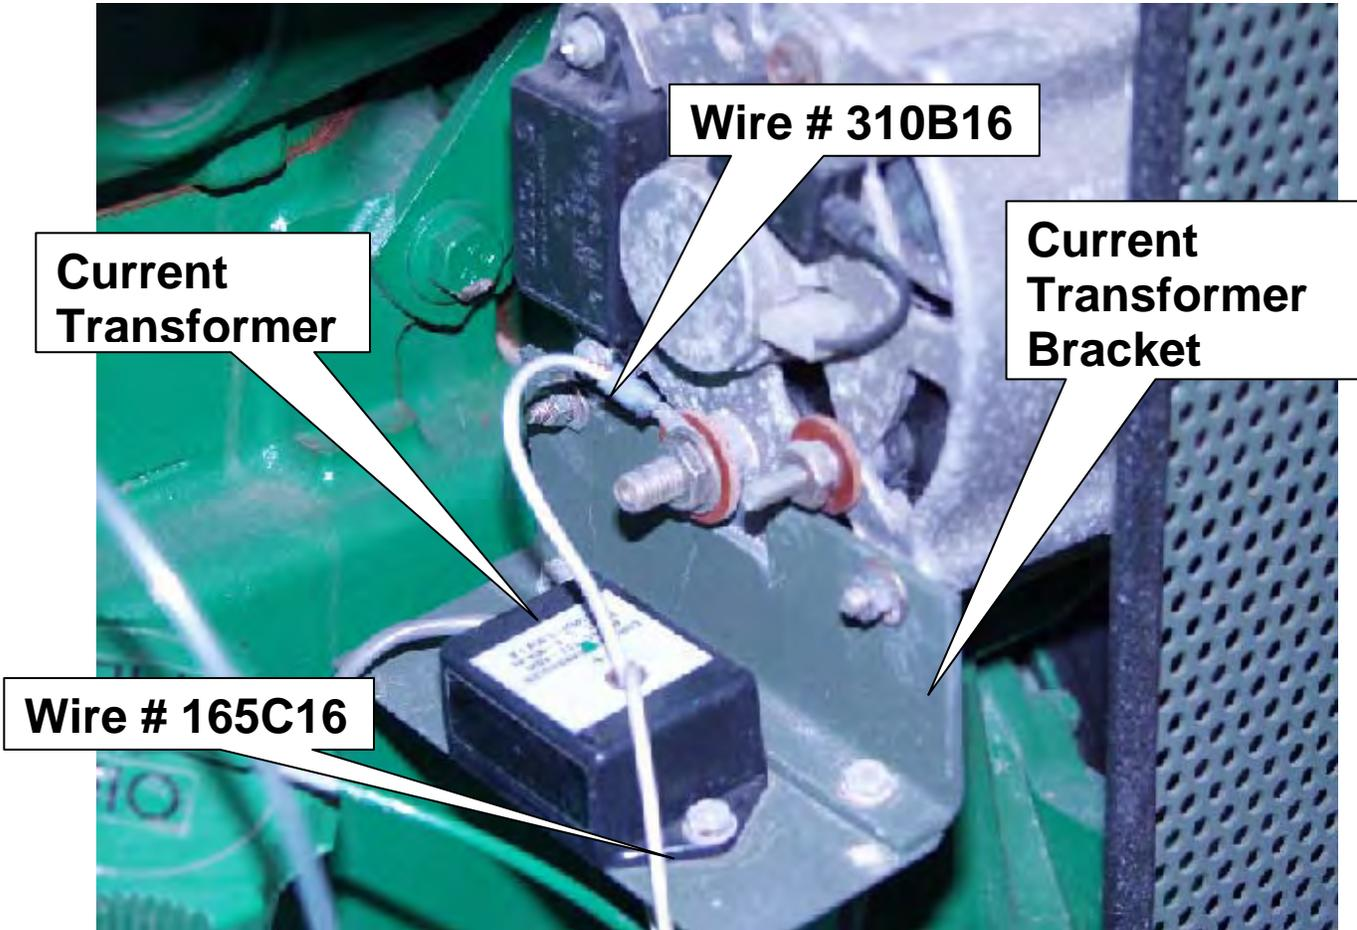

Figure 3. Alternator compartment
3 Disconnect wire #310B16 from the positive terminal on the battery charging alternator, cut off the terminal lug and remove the wire and fuse holder from the harness, see figure 3. If wire #165C16 has not been removed from the current transformer, perform the procedure in appendix A to move the DC control power wire.
4. Remove the current transformer bracket from the back of the alternator, see figure 3. Remove the battery charging current transformer from the bracket and discard the bracket.